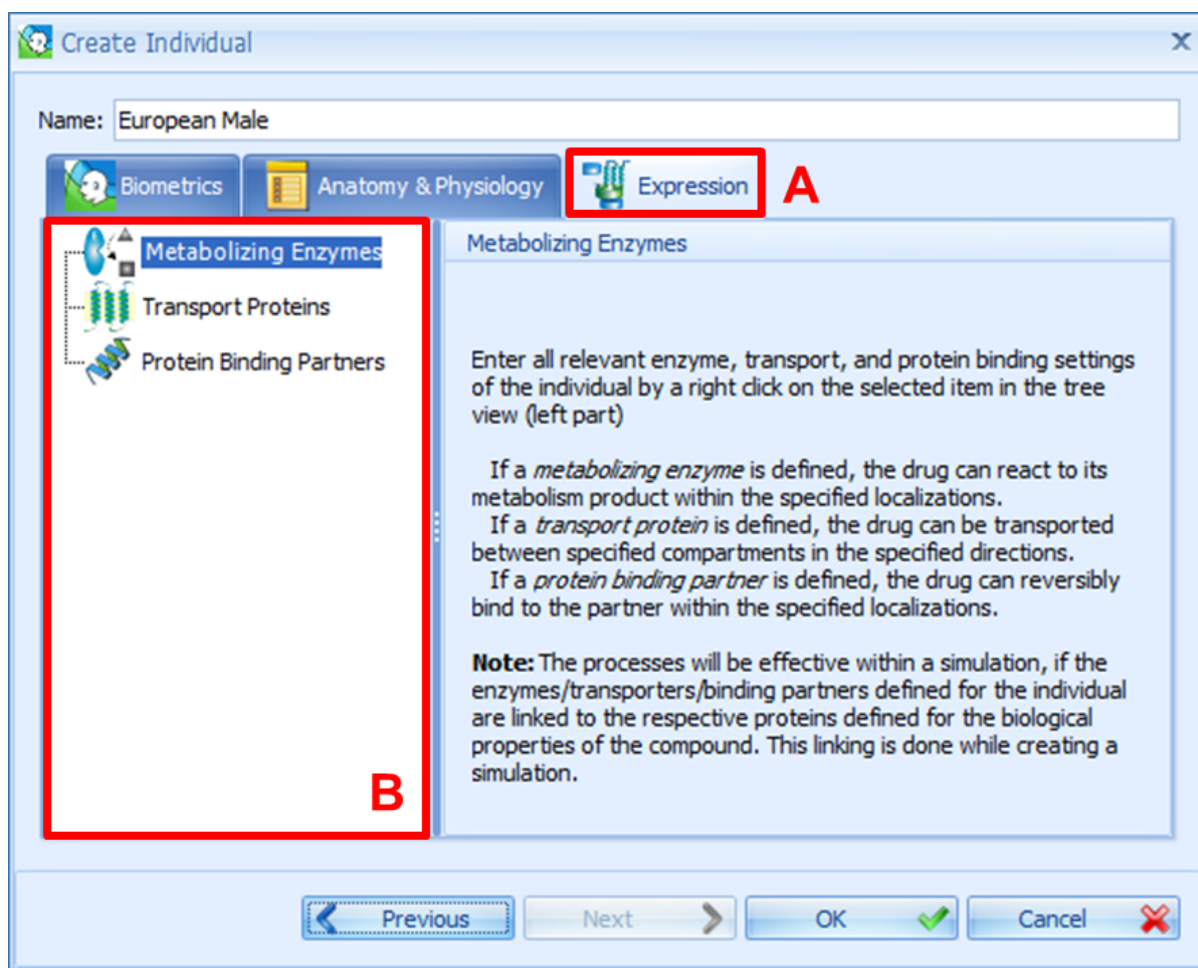

Figure 14.1. Expression Input Form
Proteins are added to a PBPK model as part of the building block individual. Proteins are added as binding partners, as metabolizing enzymes or as transporters for “compound”. The specifics of the interaction is adjusted in the compounds building block, see Chapter 15, *PK-Sim®- Compounds: Definition and Work Flows*, while the quantities and localization of proteins is parameterized in the individual building block. There are two ways of adding proteins to the building block “individual”, either via a database query using the PK-Sim® gene expression database, or through direct entering of protein quantities to a list of organs and tissues. In either case, a protein is added either as “Metabolising Enzyme”, as “Transport Protein” or as “Protein Binding Partners”. Below the tab “Expression” (see Figure 14.1, (A)), you find an area that lists all possible protein ‘types’ (see Figure 14.1, (B)). For each type, it is possible to select via right click a context menu with two entries, **Add [type]... (Default)** or **Add [type]... (Database Query)** with type being one of “Metabolising Enzyme”, “Transport Protein” or “Protein Binding Partners”.